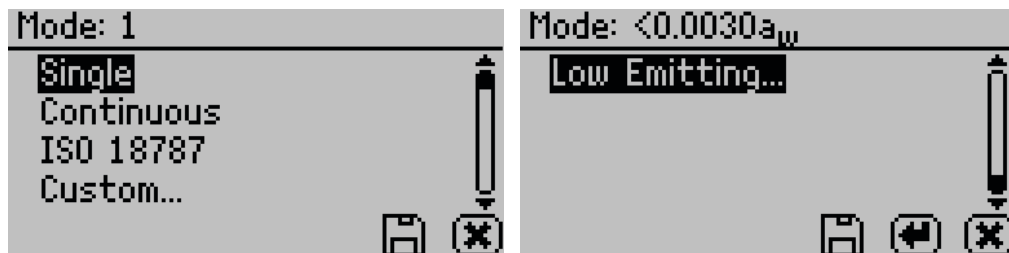

Figure 32 Custom mode options
- **Mode.** Select to choose between Single, Continuous, ISO 18787, Custom, or Low-Emitting mode (Figure 32). The current mode settings appear at the top of the screen with the number of tests appearing first, followed by the stability value (Δa_w).